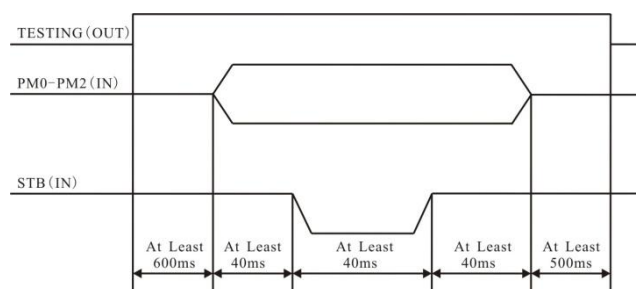

Figure 5-4-2 Timing of remote selection of group
The PLC will choose group following the timing in Figure 5-4-2.
**The TEST in Figure 5-4-2 is output signal. Do not call any groups during testing, otherwise, the call instruction will be ignored!**